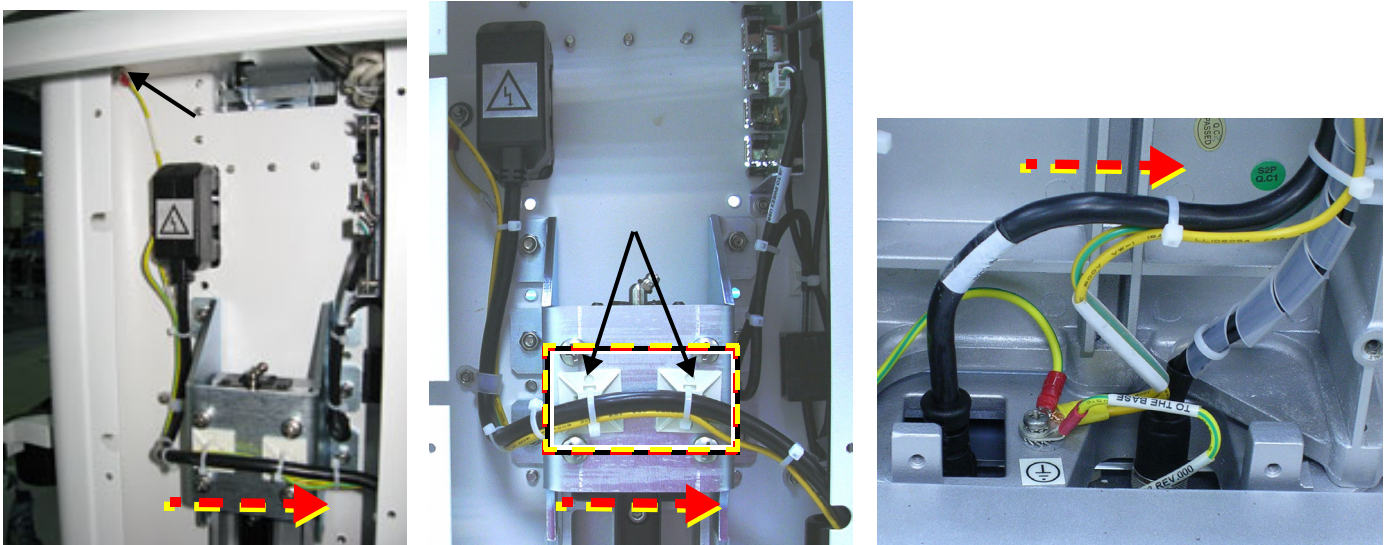

Figure 8-86 Routing of Peripheral AC Outlet Cable from Left to Right
Correct routing of the Peripheral AC Outlet cable is shown in Figure 8-86, below.
NOTE: Before starting the routing procedure adhere two plastic cable holders to the metal linear guide bracket as shown in Figure 8-86 (middle picture).
- 2.) With the AC power socket plugged into the cart (Figure 8-86, left picture), connect the ground cable to the body of the cart.
- 3.) Route the Peripheral AC Outlet cable as shown in the middle picture of Figure 8-86.
- 5.) Route the cable and the ground cable over the plastic cable holders (Figure 8-86 middle picture) and secure the cables with the tie-wraps.